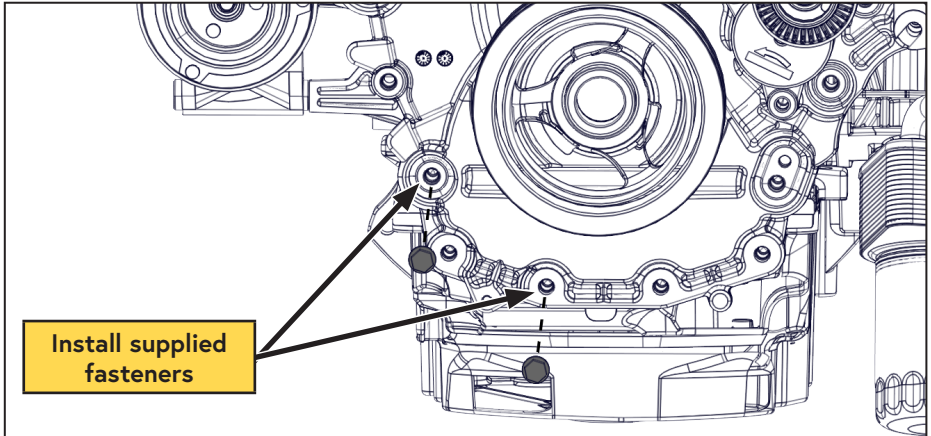

Figure 18 — Replace bracket fasteners
- Apply Loctite 242 (blue) to the 2 supplied M8 × 1.25 × 30 mm fasteners and install them in the location shown. Torque the fasteners to specification (Figure 18).